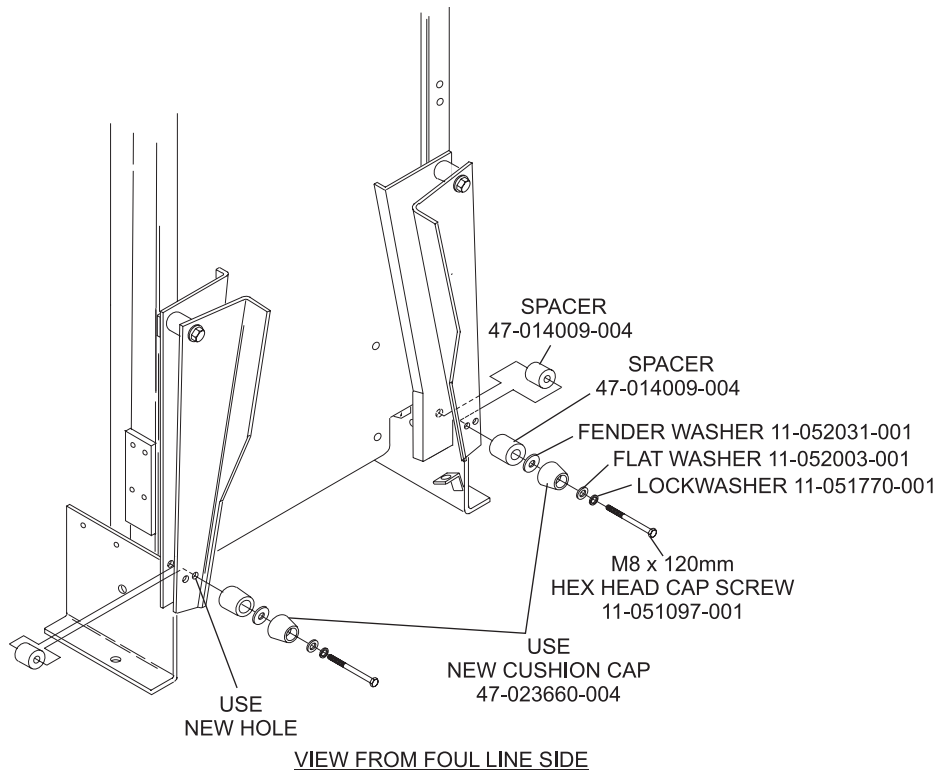

Figure 4
- Reattach the elevator pin deflector using the new hole. Install with the screw, lockwasher, flat washers, cushion cap, fender washer and two spacers. Refer to *Figure 4*.